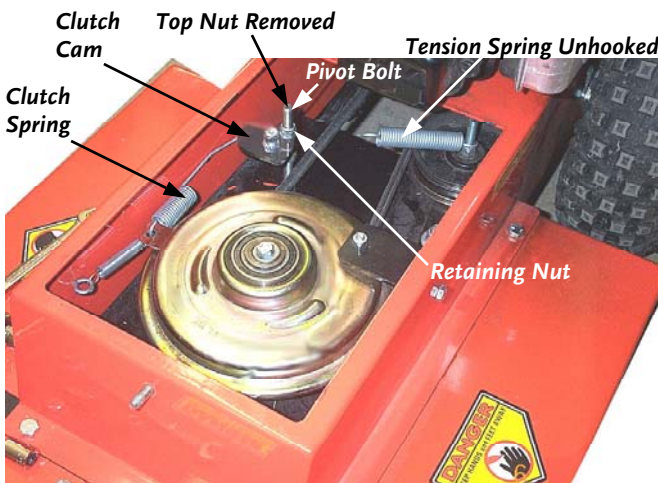

Figure 24
3. Remove the top Nut from the Clutch Cam Pivot Bolt (**Figure 24**) using a 9/16" Wrench.
4. With a gloved hand, remove the Idler Tension Spring from the Pivot Bolt by pulling the Spring toward the Bolt and lifting it off (**Figure 24**).